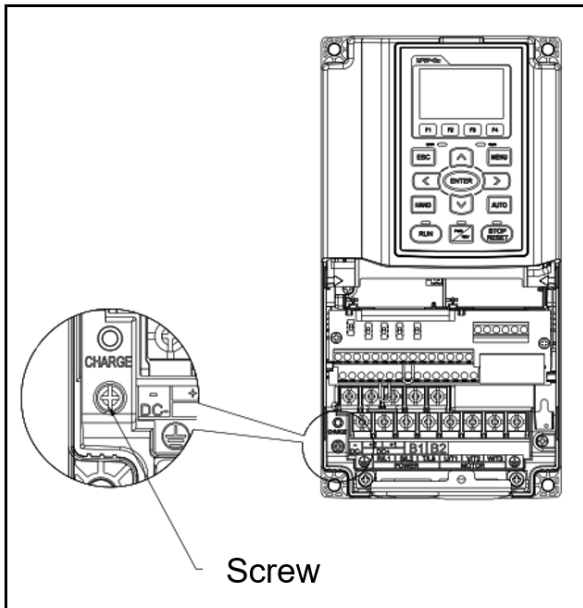

Figure 6-4. RFI Jumper Screw.
- b. Loosen the screw shown in Figure 6-4.